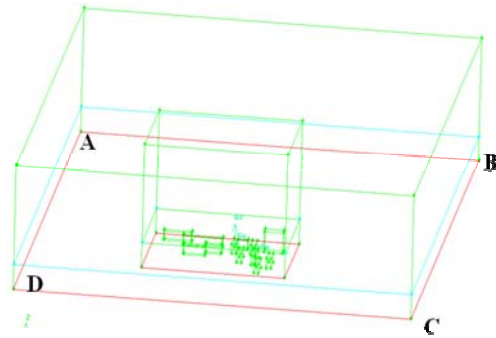

Fig. 27 The brick 'helpvol1' marked in red.
It is necessary to assign a denser mesh in the region close to the ground. The region is separated from the domain by Split with a help face. The domain shall be split by the plane of the top surface of the "domain small". The help face can be created by a copy of the ground face as ABCD shown in Fig. 27.
- ① Click pad 'Geometry'
- ② Click pad 'Face'
- ③ Move/Copy faces
- ④ Pick the face ABCD (see Fig. 27)